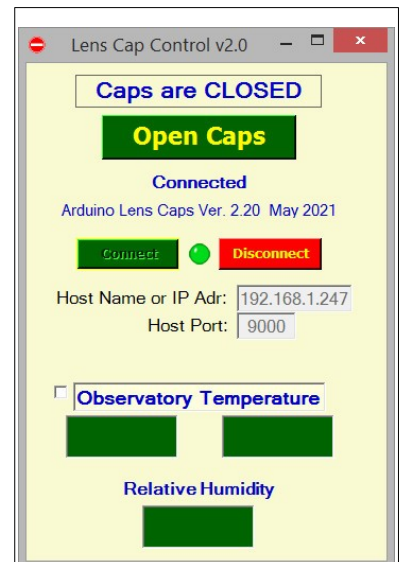

Figure 6: The App connected to the TLCC
- Click the green **Connect** button. There will be a brief delay while the system initializes, then the window should look like **Figure 6**, right. You should see **Connected** and the Arduino firmware version should be displayed. In addition, the **Caps are...** text at the top should show the caps are closed, and the green button below that should display **Open Caps**. The green light between the buttons should be flashing. These all tell you the App has connected to the TLCC stack, and is receiving data from it.